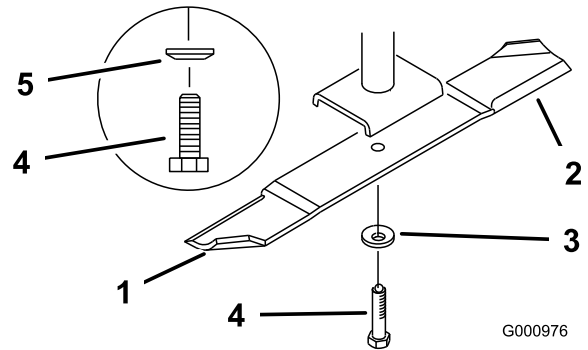

Figure 13
Important: The sail part of the blade (i.e., the turned up section) must face the inside of the mower (Figure 13).
1. Install the new blades to the spindles with curved washers and blade bolts that were previously removed (Figure 13).